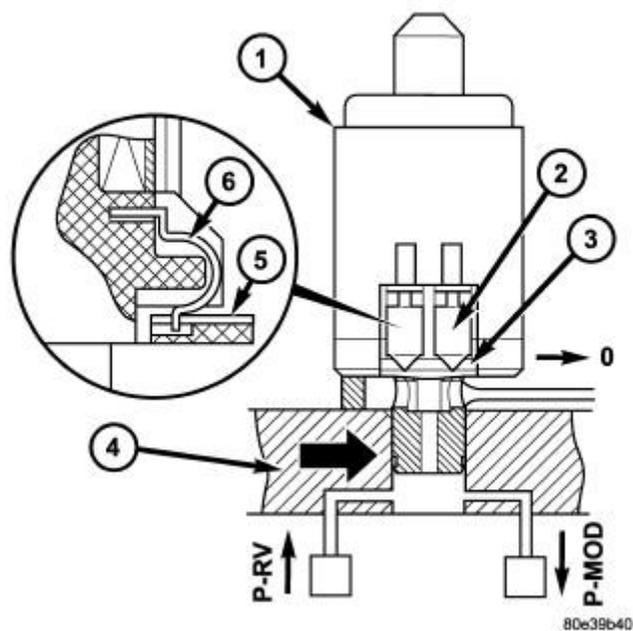

Fig. 205: Cutaway View Of Modulating Pressure Control Solenoid Valve
The modulating pressure regulating solenoid valve (1) assigns a proportional pressure to the current which is controlled by the TCM according to the load. Refer to **Fig. 205**.